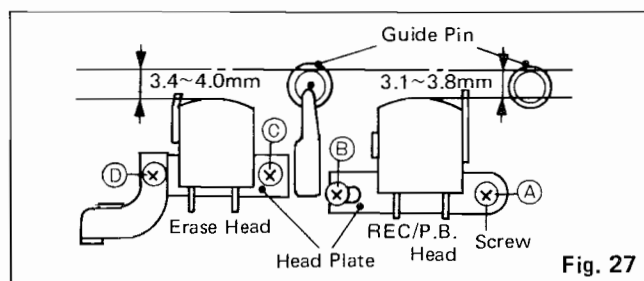

Fig. 27
1. Replace the recording heads by removing the two screws marked (A) and (B) in Fig. 27.
2. Replace the erasing heads by removing the two screws marked (C) and (D) in Fig. 27.
3. Adjust the screw position and play when reassembling, so that both heads fall within the allowance indicated in Fig. 27 when depressing the PLAY button.
3. By rotating screw (B) in Fig. 27, adjust so that the vacuum tube volt meter pointer indicates the maximum value.
4. After completing adjustment, paint-lock screw (B).